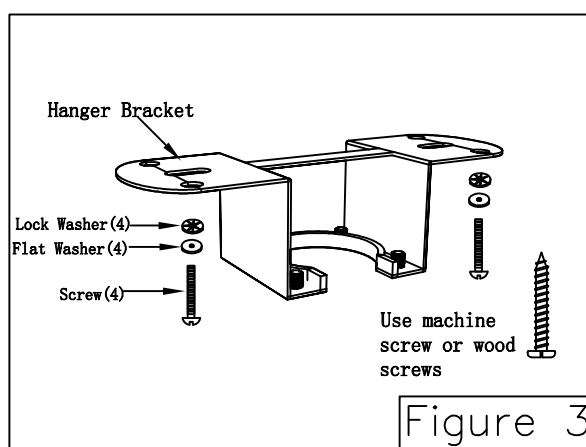

Figure 3
- Loosen the two set screws in the downrod support of the motor assembly. Route the black, white and blue wires through the downrod. (Figure 3)
Securely attach the hanger bracket to the outlet box using the outlet box screws and washers supplied with the outlet box. (Figure 3)